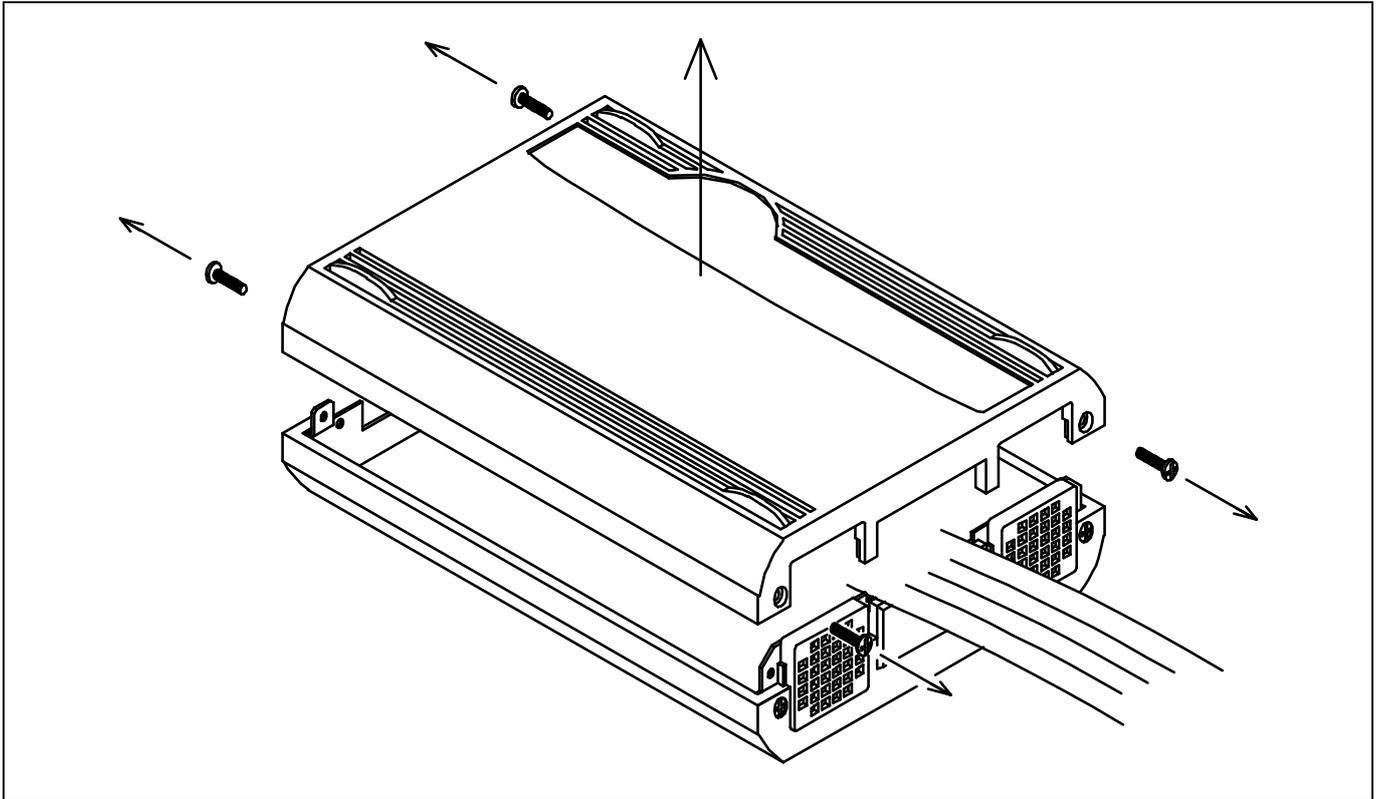

Figure 2.21 Removing the upper cover
1. Remove the four screws of both sides of the PC7501 and lift off the upper cover (see Figure 2.21).